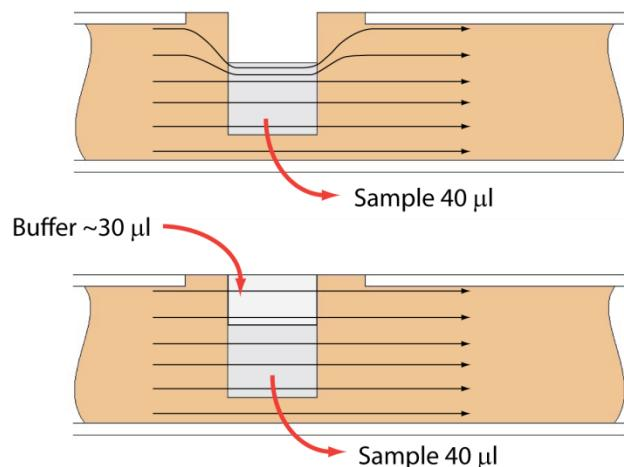

Figure 11.1. An illustration of the electrophoretic effect on a DNA sample when a sample well is not completely filled.
Proper sample loading is critical for best performance of BluePippin cassettes. For maximum reproducibility and accuracy, the sample should travel through the central section of the gel column, and should be bounded on all four sides by uniformly conductive media – either gel or electrophoresis buffer. The goal of the loading procedure is to produce this geometry in the sample loading well as illustrated in the bottom section of **Figure 11.1**. Properly prepared samples will be 40 μ l in total volume consisting of 30 μ l of DNA mixed with 10 μ l of BluePippin internal standard mix or loading solution. The loading solution contains concentrated Ficoll as a densifying agent (see the Section 6 on Sample Preparation for details), and therefore the samples will sink and form a high density layer beneath the electrophoresis buffer when pipetted slowly into the sample wells. If there is insufficient conductive buffer over the sample, the electrophoretic forces lines will curve upward as the sample exits the well (see **Figure 11.1**, upper section), and the sample will be drawn to the top of the cassette where it can travel out of the gel into the gap between the gel column and the plastic top of the channel. Sample moving in this gap will travel at a different rate than the sample inside the gel column and will lead to elution of undesired size fractions in the eluted material. In such cases, the contaminating DNA will usually (but not always) be higher in molecular weight than the selected DNA.
2. **Remove 40 μ l of buffer from the first sample well, and load 40 μ l of sample (or marker) into that well.** Take care not to pierce the agarose with the pipette tip. There is gel on all sides and bottom of the sample well. In addition, there is an agarose “chimney” surrounding the top of the sample well that protrudes up through the cassette cover (see **Figure 11.1**). When removing buffer, some users find it useful to immerse the pipette tip just below the surface of the buffer and follow the liquid level down with the tip as the buffer is removed. When buffer removal is completed, there will be ~30ul of buffer left in the well. When adding sample, place tip of pipette just below the surface of the buffer, and follow the liquid level up with the tip as the well fills. Don’t be concerned if the sample well slightly overfills. The density of the sample will allow it to sink before it can flow out of the well.